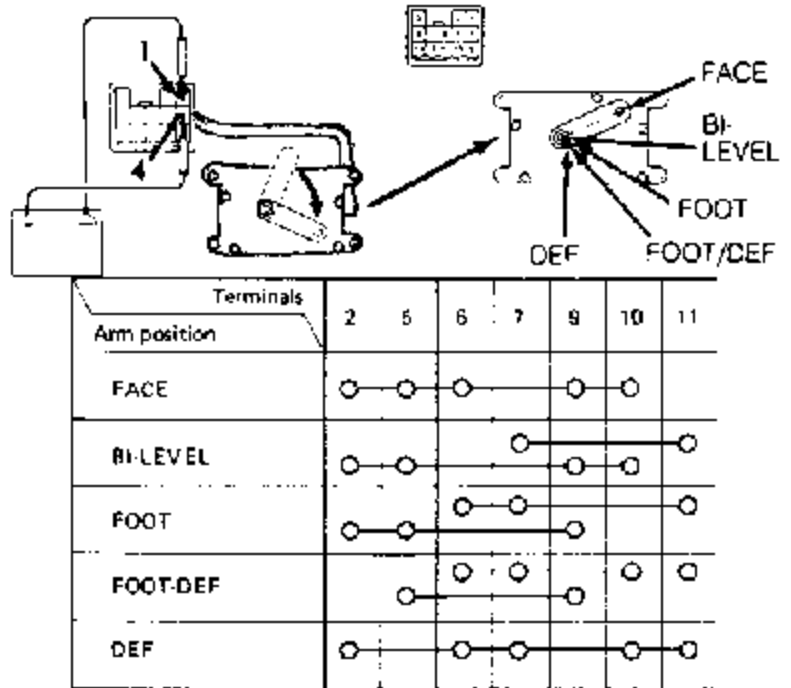

Fig. 9: Air Vent Servo Motor Test
2) Reverse jumper leads on servo motor connector. Ensure servo motor arm moves smoothly. Continuity should exist between terminals as shown. See Fig. 9. If motor does not operate as specified, replace servo motor.